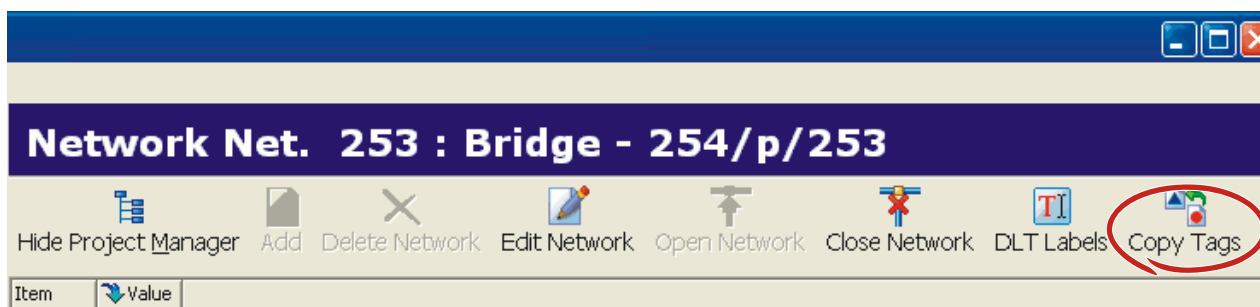

Figure 3 - Click the Copy Tags button in
- 8) Click the Copy Tags button in the created network's tool bar (Figure 3).